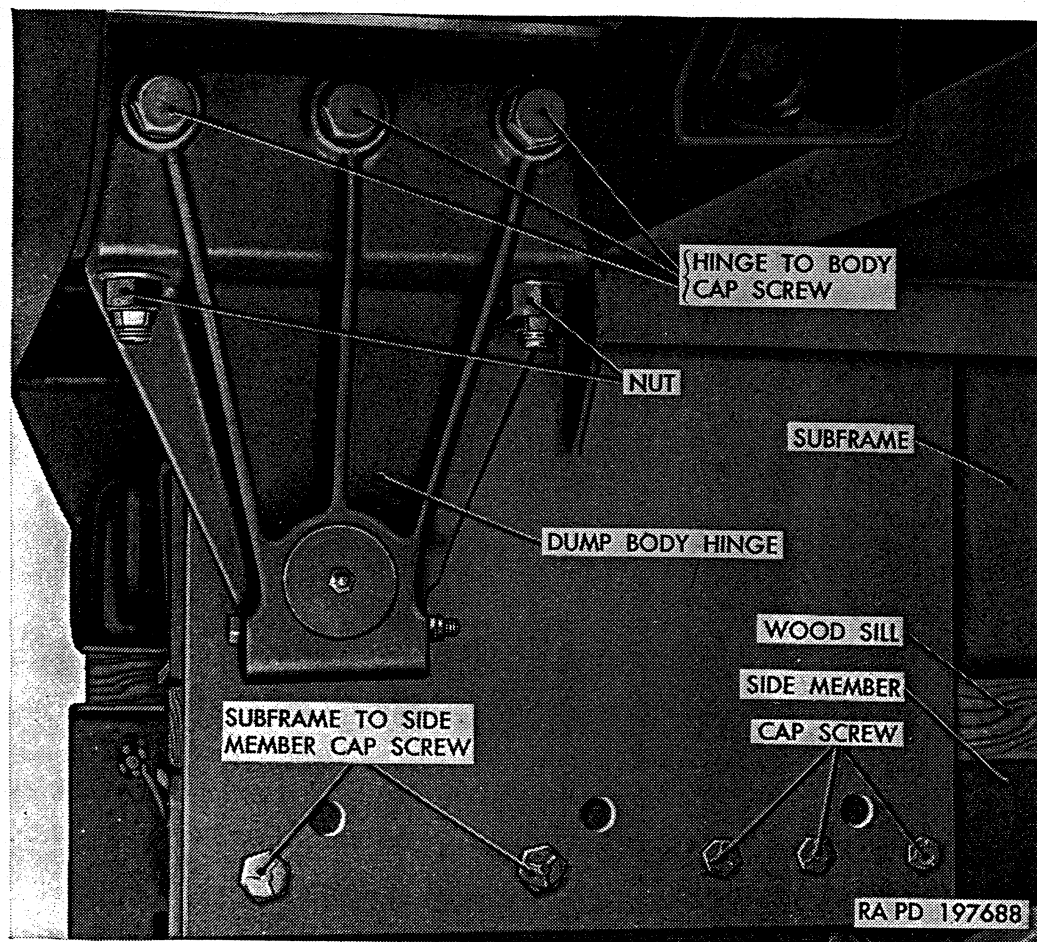
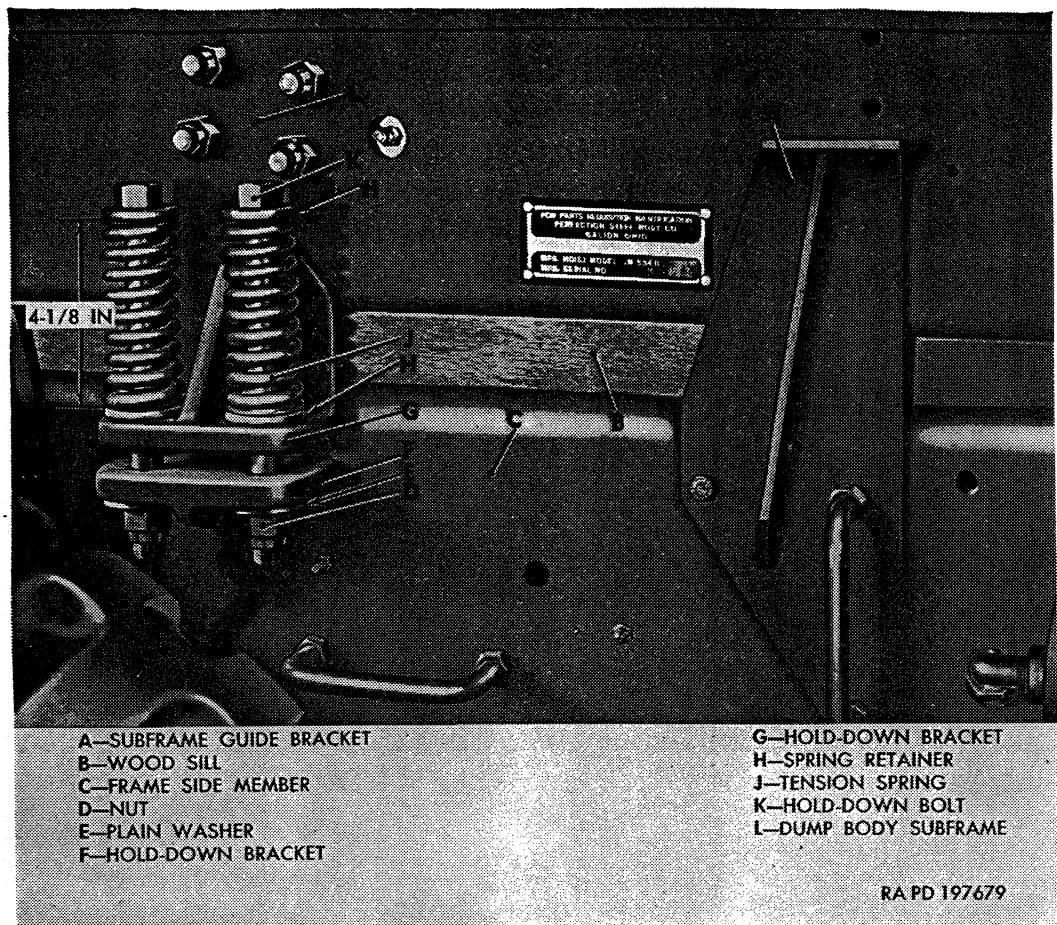

Figure 350. Body and subframe rear mounting.
Figure 351. Subframe front mounting.
b. *Body Mounting.* Body (fig. 350) is secured to subframe by hinges at each rear corner. Hinges are held to body by five cap screws and nuts. Also, each hinge is attached to subframe by a hinge pin which serves as a bearing when body is raised and lowered.
c. *Subframe Mounting.* Subframe assembly is rigidly attached to vehicle frame side member at rear (fig. 350), and flexibly mounted at front (fig. 351). Wood sill strips are used between subframe and vehicle side members.
- (1) *Rear mounting.* Subframe (fig. 350) is secured to each vehicle side member at rear by five cap screws and nuts. Cap screws should be inspected for tightness at intervals indicated in paragraph 79, table V.
- (2) *Front mounting.* Subframe mounting at each side near front is flexible-type shown in figure 351. At installation, hold-down bolts (K, fig. 351) and nuts (D, fig. 351) should be tightened until tension springs (J, fig. 351) are compressed
to 4 1/8 inches as shown in figure 351. At intervals indicated in paragraph 79, table V, inspect springs for proper compressed height and broken coils. Inspect holddown brackets to be sure they are tight at vehicle and subframe side members.